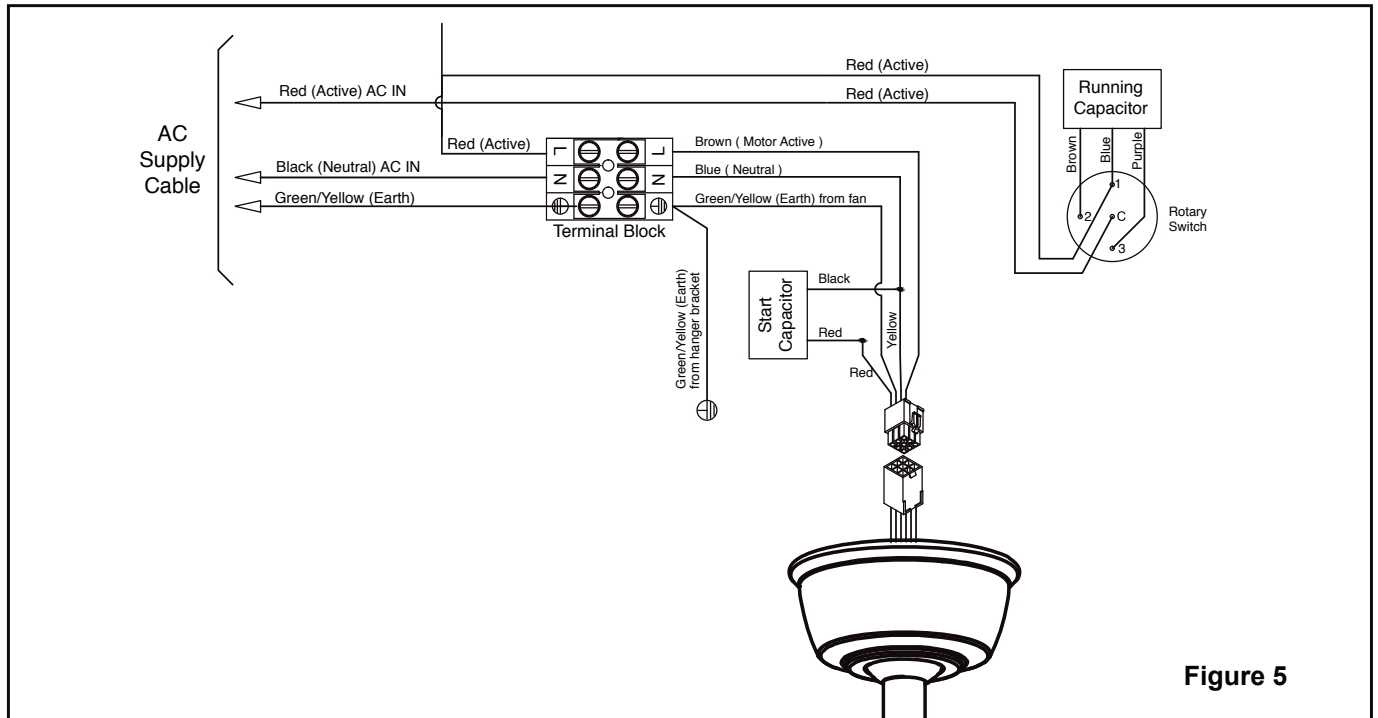

Figure 5
1. Securely connect the green/yellow earth wires from the hanger ball and the hanger bracket and the supply green/yellow earth wire to the terminal block as shown in Figure 5.
2. Securely connect the the black supply neutral to the "N" terminal of the connector block as shown in Figure 5.
3. Securely connect the Red Supply Active wire to the "L" terminal on the connector block as shown in Figure 5.
2. Ensure wiring connections are as shown in Fig 5. The Active (Red) supply wire must be connected to terminal "C" on the rotary switch. Return switched wire to ceiling fan to be connected from terminal "1" on the rotary switch to "L" terminal on the connector block.